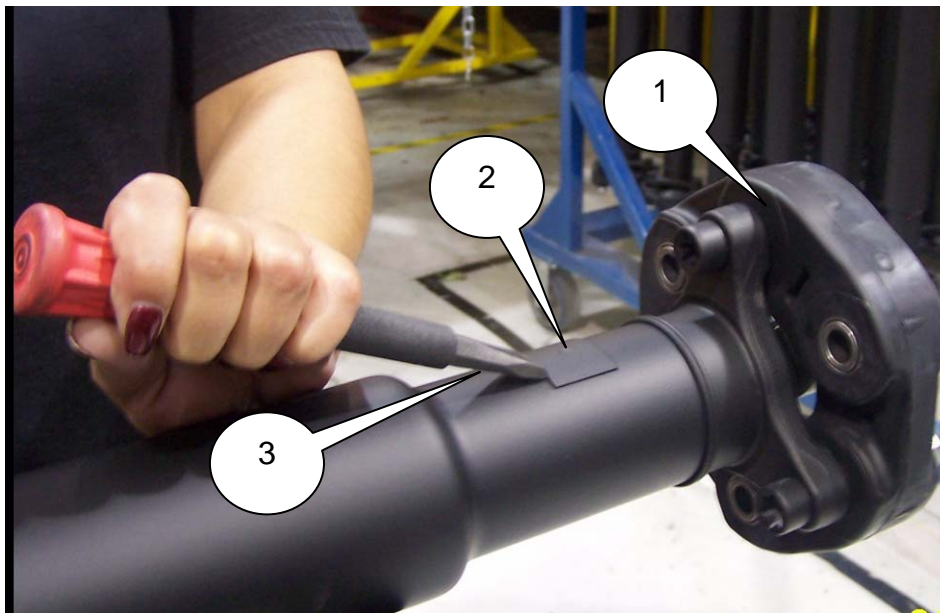

Figure 4 (Shaft Removed for Picture Clarity)
- b. Center the edge of a chisel on the edge of the balance weight at a 45° angle (Fig 4).
NOTE: Figure 4 is shown with the propeller shaft removed for picture clarity. It is not necessary to remove the propeller shaft to verify proper weld adhesion.